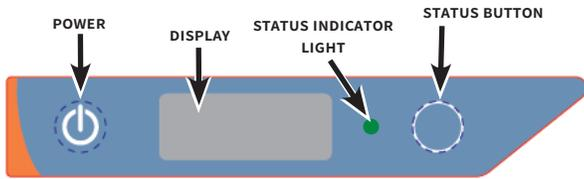

Figure 1 - Load bag
4. Activate control by placing bag of fluid in module. See Figure 1. For optimum performance, the bag should be centered over the sensor.